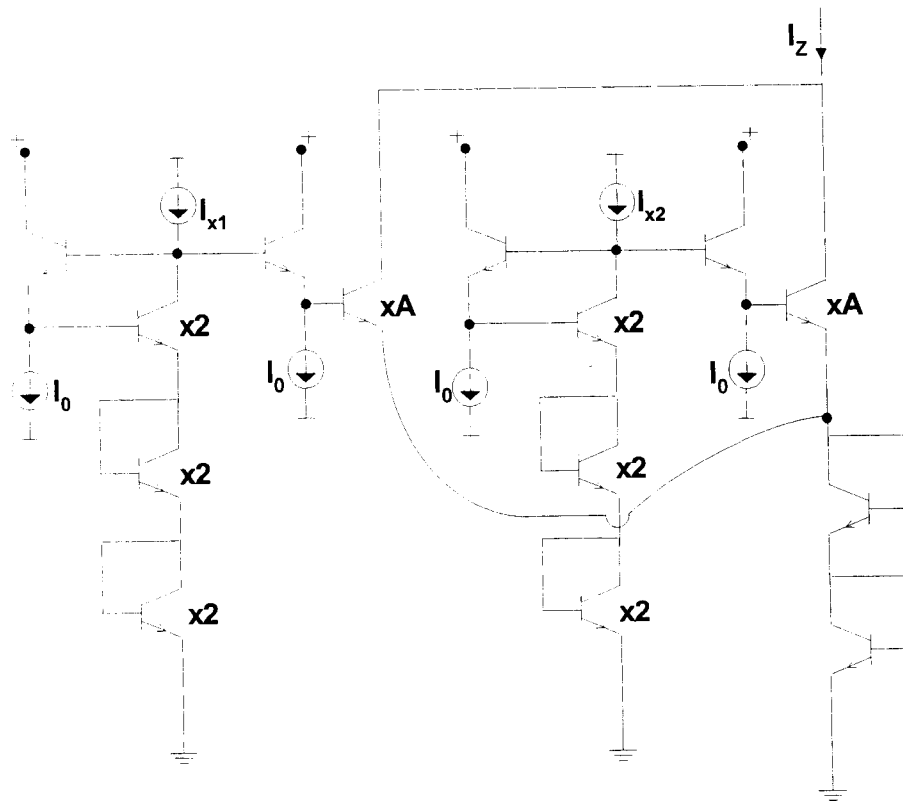

Figure 4.3
- c. For the circuit of Figure 4.3, I_{x_1} and I_{x_2} are input currents whereas I_z is the output current. Express the current I_z as a function of the currents I_{x_1} and I_{x_2} and the emitter area A . When $I_{x_1} = I_{x_2} = I$, determine the value of the emitter area A for which $I_z = I$. [8]